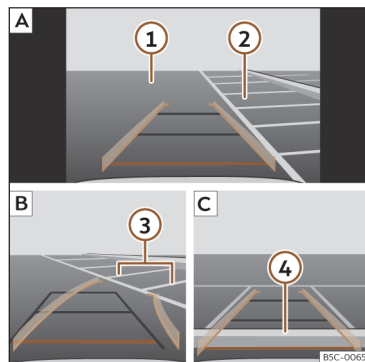

Fig. 145 Display on the infotainment system screen: parking with the reverse assistant.
Key to >>> **Fig. 145:**
- Stop the vehicle in front of the parking space >>> **Fig. 145** **2** **A**.